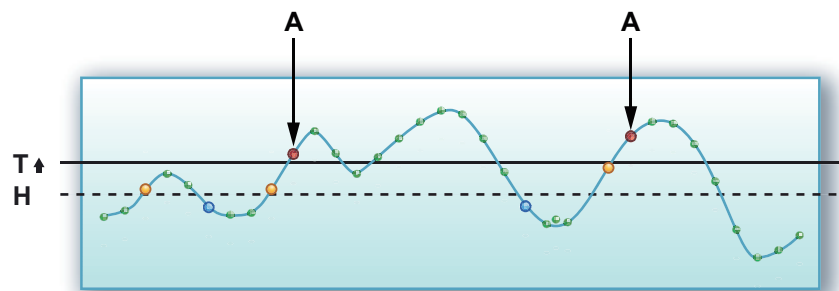

Figure B.4: Trigger level hysteresis
Figure B.4 shows the influence of the hysteresis. The difference is that a second level (H) is used to “arm” the level trigger detector. In other words, the trigger level has been expanded to be a trigger zone that spans multiple levels.